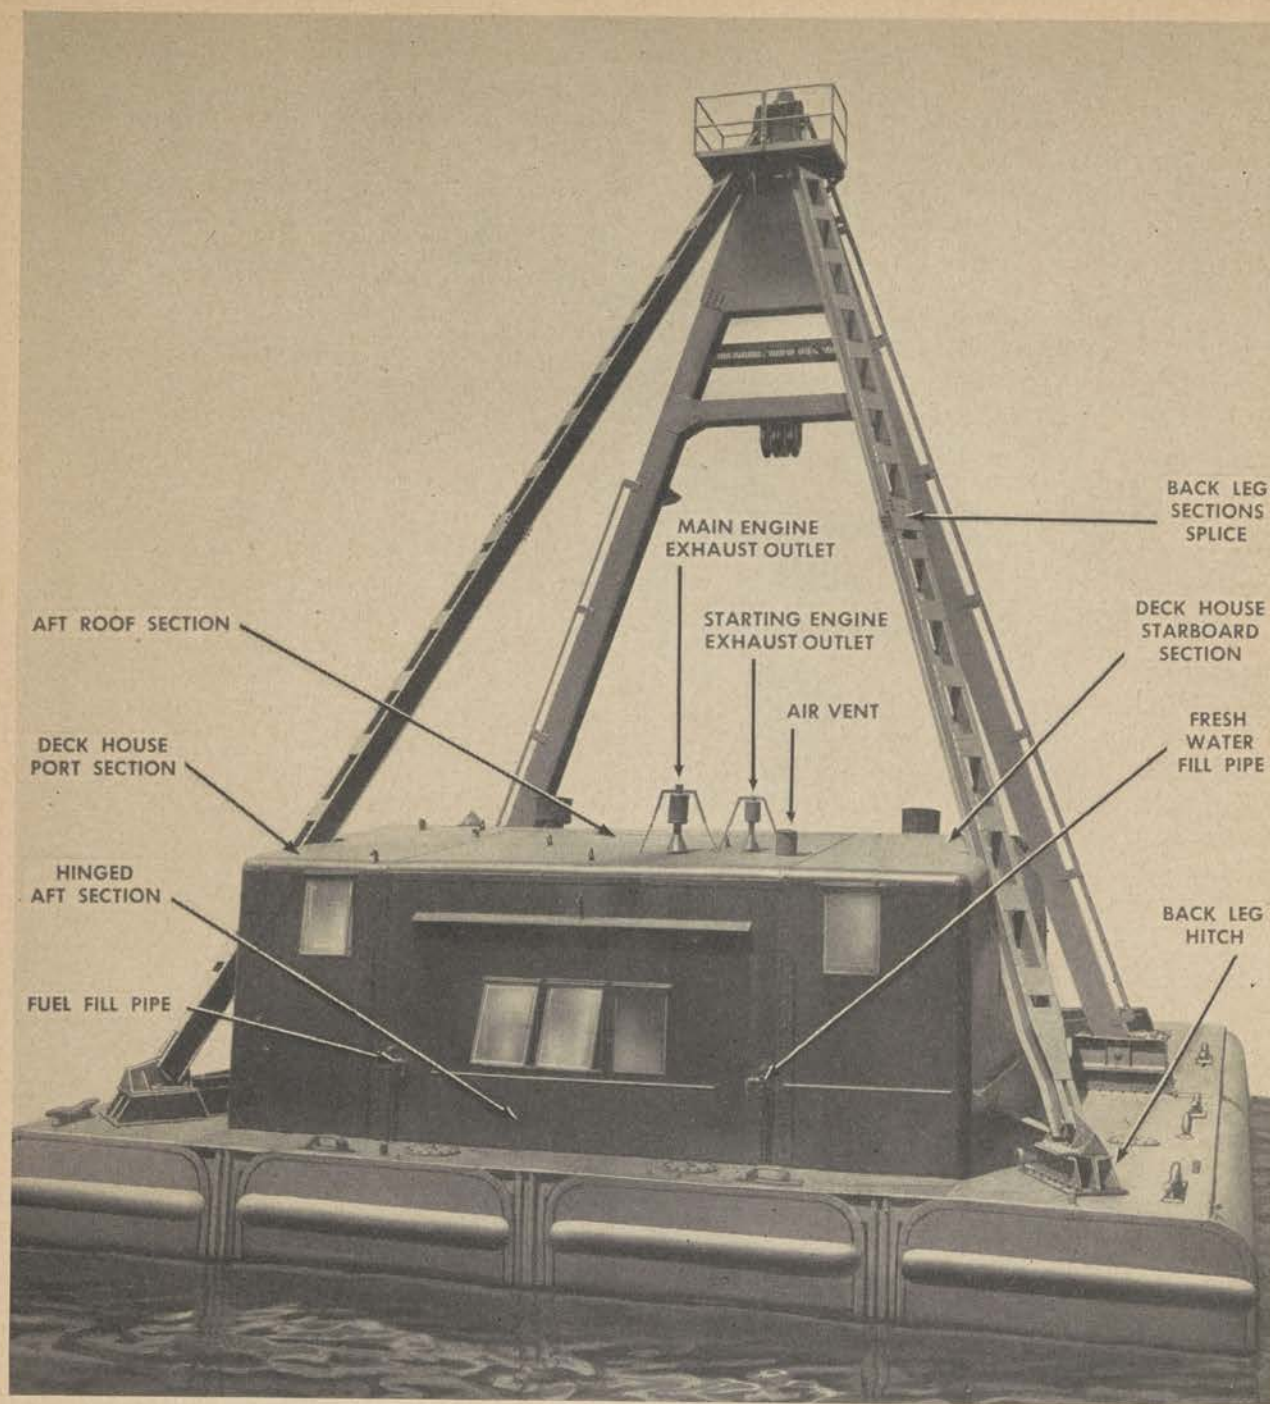

Figure 41. Barge derrick with deck house A-frame and back-legs assembled.
(2) *Erection of back legs.* The back legs are shipped in two sections. (See fig. 41.) Bolt the sections, pieces Nos. 8 and 9, together at some convenient location on the ground and hoist each leg into position. Carefully align the lower pin hole of each leg with the hole of its back leg hitch, piece No. 3. Insert 3 1/2-inch pin and secure it by cotter pins. (See fig. 26.) After inserting the lower pin, align the pin hole at the top with that in the projecting plate of the A-frame top. Insert the upper 3 1/2-inch pin and secure it.
(3) Install fixed roof windows located at splice, using the angle frame composed of a $1\frac{3}{8}$ - by $\frac{7}{8}$ -inch angle and a $\frac{1}{2}$ - by $\frac{1}{2}$ -inch angle, inserted in window opening in the roof.
(4) Install the hinged movable section of the aft end bulkhead, complete with glass, frames and dogs for securing window in closed position, in aft section. Set the window in the framed opening and screw the hinges in place to the aft bulkhead with $\frac{5}{16}$ -inch roundhead machine screws. (See fig. 41.)
(5) To install the vented sash, set the window complete with angle frame, flat bar frame, and glass, in the window opening and screw the hinges into place. Secure the vented sash angle frame to the window opening with $\frac{3}{8}$ -inch-long hex head bolts, nuts, and lock washers where the windows occur in the splice of the forward bulkhead. Finish installing windows in the manner described above.
(6) Vented windows have a window brace and locking device composed of units assembled as follows: A $\frac{1}{4}$ -inch-diameter pin is welded to the window sash and a $\frac{1}{4}$ -inch-diameter pin is welded to the window frame. Offset lugs are welded to the outer edge of the inner frame. A metal brace, notched, drilled, and upset, is fitted over the $\frac{1}{4}$ -inch-diameter window sash pin. This is held in place by means of a washer and split pin inserted to the pin, allowing the brace to move freely on a horizontal plane. The ventilation is regulated by setting the notches of the brace on the $\frac{1}{4}$ -inch-diameter window frame pin.
(7) The interior and exterior doors are received prefabricated, ready for mounting to the bulkheads. Set the doors in place and secure them to the bulkhead with $\frac{1}{4}$ -inch roundhead machine screws with square nuts and lock washers.
g. INSTALLATION OF CAPSTAN. (1) The following units comprise the capstan system:
cap, elbow with flame arrestor screen, and piping above the fuel oil storage tank located aft of the deck house. (See fig. 41.) Secure the fuel oil supply line from the storage tank to engine foundation, from which point connect it to a bypass composed of hand pump, two gate valves, check valve, and piping. Connect the bypass and drain cock to the bottom of the day tank. Connect a gate valve to the bypass which controls fuel flow to the fuel transfer pump on the engine.
d. PREPARATION FOR OPERATION. (1) *General.* Before operation, make complete before-operation inspection prescribed in paragraph 35a.
(2) *Checking fresh water storage tank.* (a) The stand pipe located aft of the deck house, starboard side (fig. 41), is the fresh water inlet. Unscrew the fillcap on top and check the content of fresh water by means of a measuring rod. (See fig. 53.)